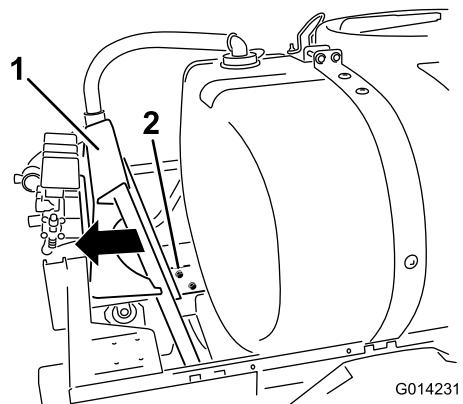

Figure 6
1. Loosen the bolts that secure the valve mounting rail to the frame (Figure 6).